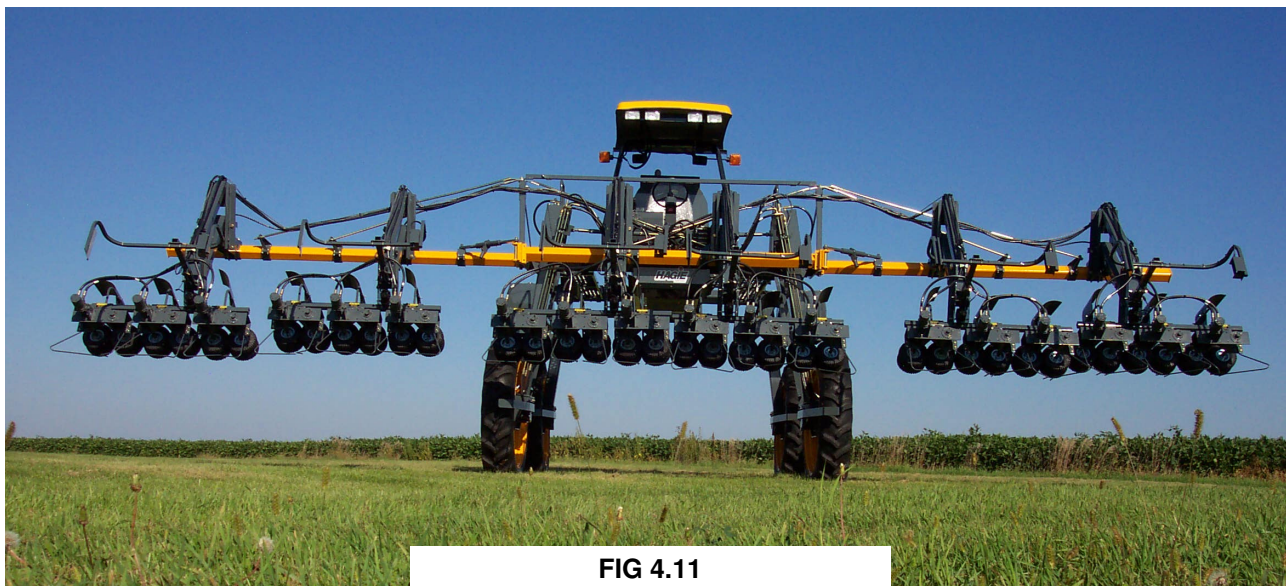

FIG 4.11
1. Attach the quad pullers to each lift arm tool bar (fig. 4.11).